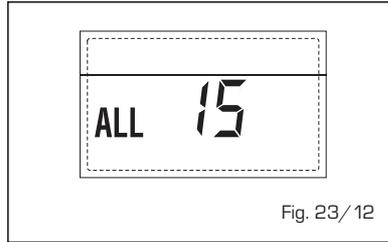

Fig. 23/12
- ANOMALÍA SONDA EXTERNA "ANOMALÍA SONDA EXTERNA "PARPADEANT" (fig. 23/13)